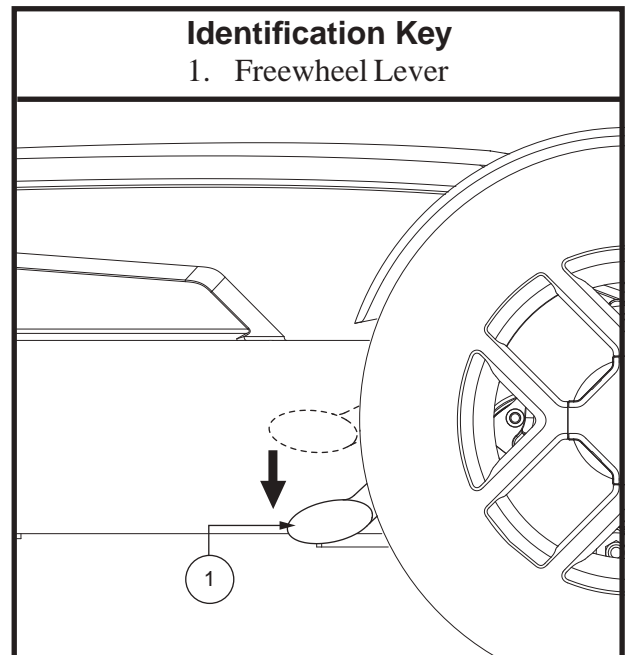

Figure 7. Freewheel Mode (Drive Disengaged)
3. Push both levers downward to disengage the drive motors (freewheel mode). See figure 7.